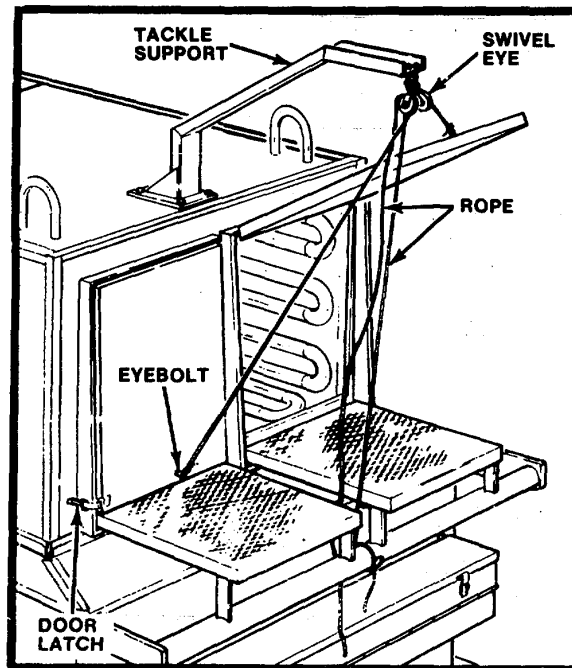

Figure 2-2. Installing tackle supports.
- a. Position the tackle supports on the front and rear top of the tunnel, securing each with the four hexagon head capscrews and flat washers provided (see Figure 2-2).